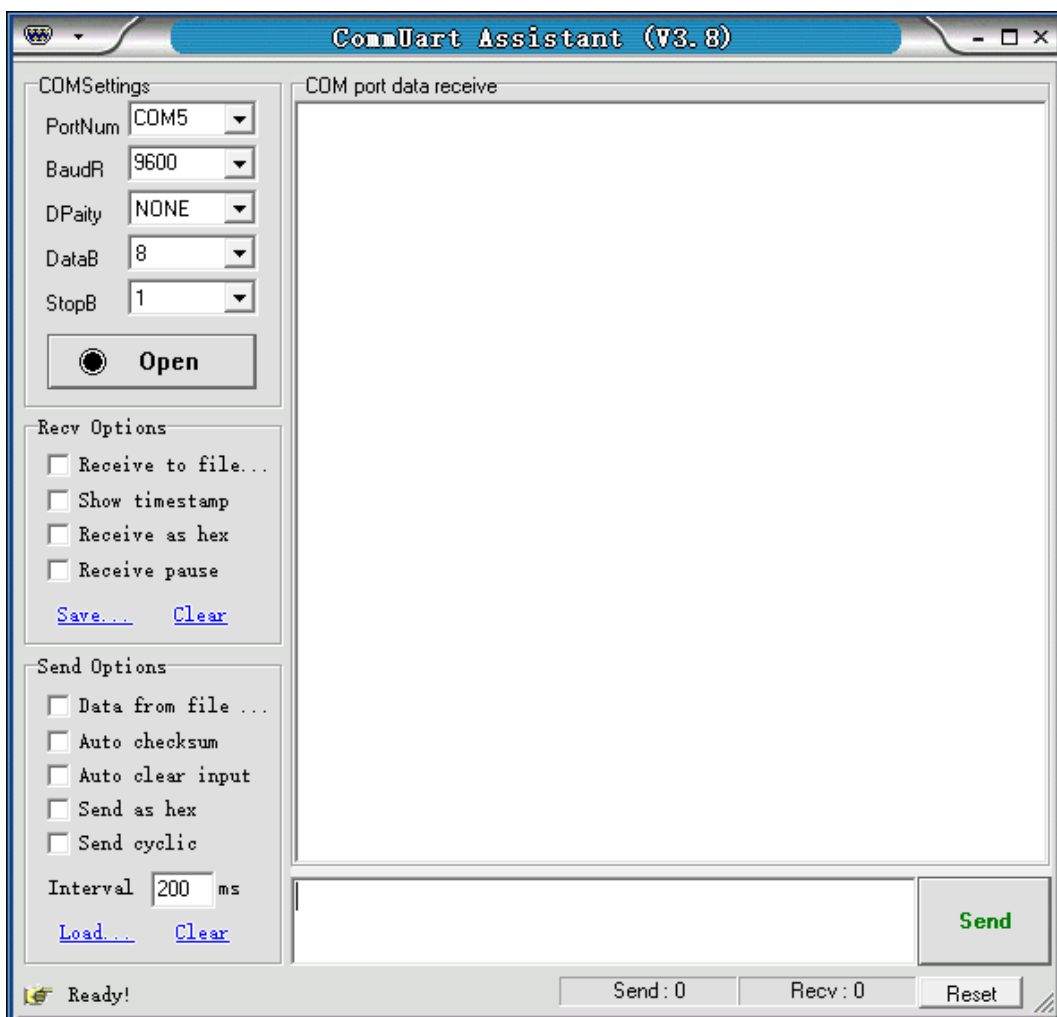

Fig15. Serial debugging assistant interface
3. Open the folder “Uart Driver” in your disk and double click the file UartAssist.exe. It will call out the software interface, as is shown in Fig.15.